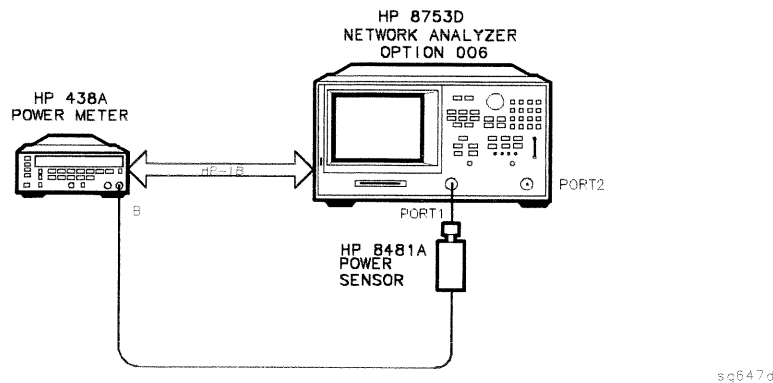

Figure 3-7. Connections for Sampler Correction at 6 GHz
19. **For Option 006 Instruments Only:** When the analyzer displays **CONNECT 6 GHz SENSOR B TO PORT 1**, make the connections as shown in Figure 3-7. Then press **CONTINUE**. This part of the test will take about 20 seconds.